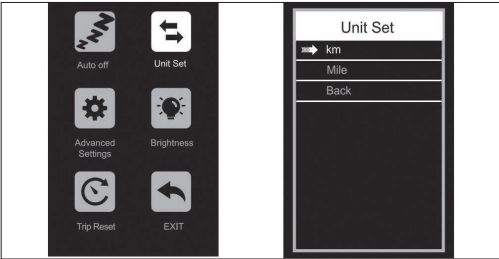

Figure 4-2
- Unit set:** If you Enter this setting, you can adjust the unit, as shown in the (Figure 4-2).